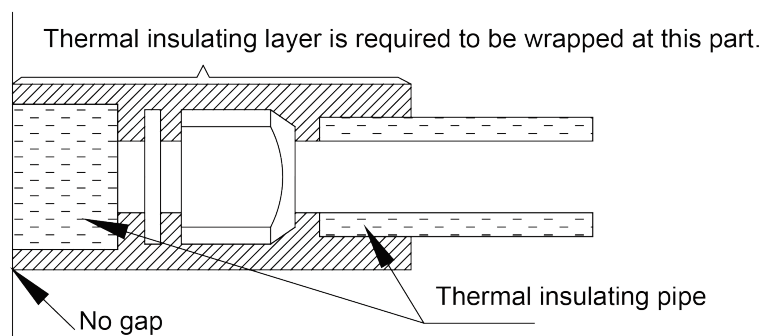

Fig. 27
- 4) Joints of indoor and outdoor unit should be wrapped with insulating material and leave no gap between pipe and wall. See Fig.27.